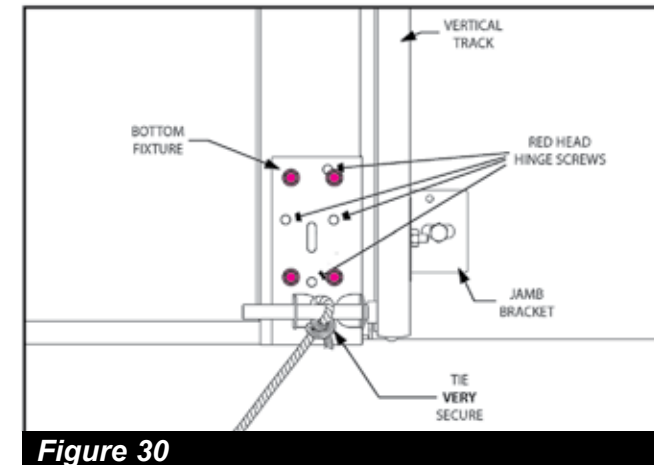

Figure 30
**PULL ROPE** Install pull rope **ONLY IF DOOR WILL NOT BE OPERATED BY AN ELECTRIC OPENER**. Tie one end of rope to the bottom roller shaft (Fig. 30). Let opposite end of rope hang loose.